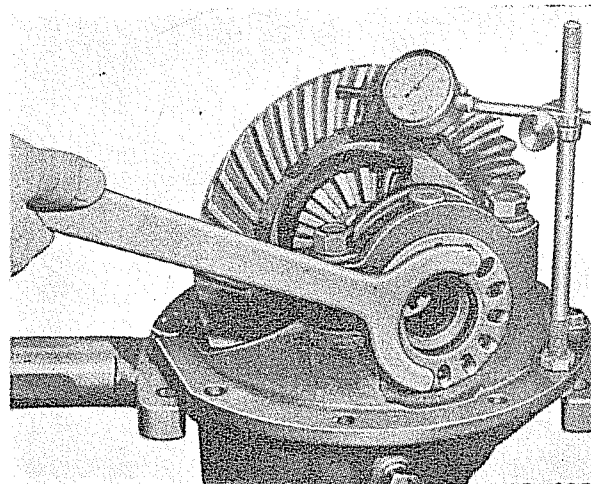

Fig. 17—Tightening Tooth-Side Adjusting Nut.
- (h) Turn in adjusting nut on tooth side, until dial gauge shows .006 inch backlash, as shown in Figure 17. Lock adjusting nuts in place and tighten both top cap screws from 85 to 90 foot-pounds.